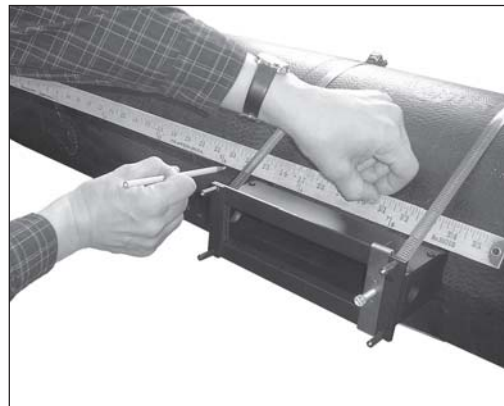

Figure 3
- Place a straight edge firmly on mounting track assembly (Figure 3). Draw a line out from the end of the track. This line will be used to align the second mounting track assembly to the Reference Mounting Track.